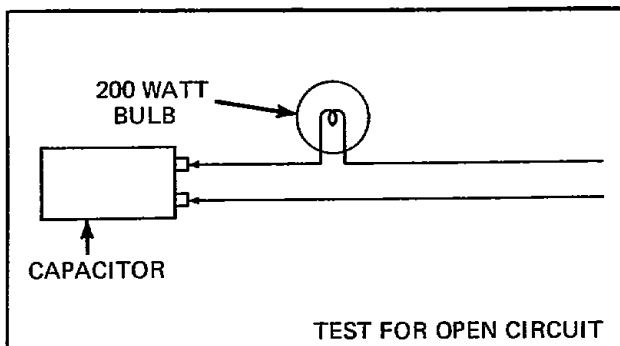

Figure 60
- Apply "live" test lamp probes (use 200 watt bulb) to capacitor terminals; "live" test lamp should light, *Figure 60*.